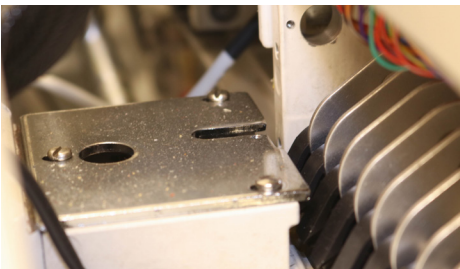

Figure 106
4. Apply five to six drops of oil to the cam reciprocator shaft on each head. **See Figure 106.**